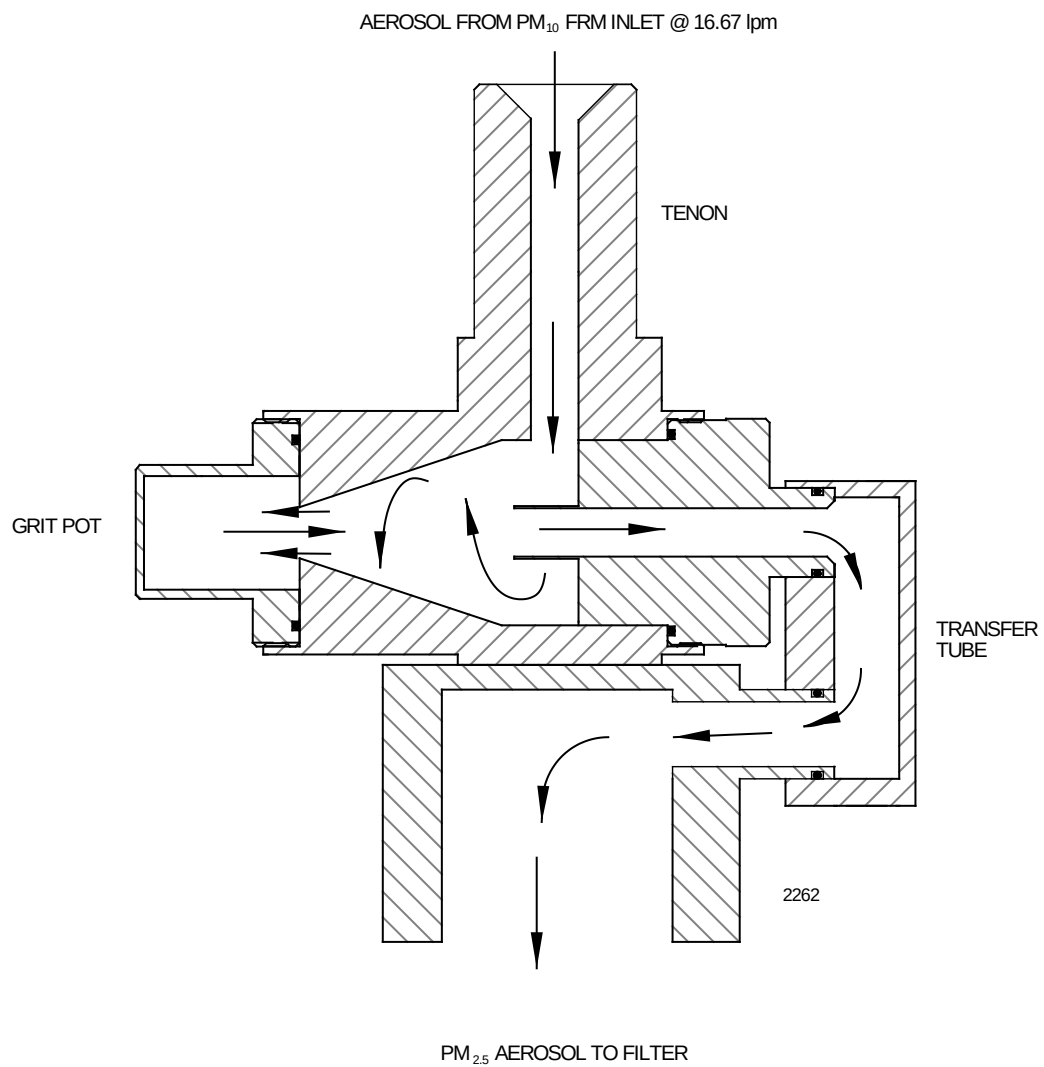

Figure 1: BGI Very Sharp Cut Cyclone (VSCC®) Flow Path
BGI manufactures two versions of the VSCC[®]. They are the VSCCA[®], which is a direct replacement for any commercial FRM system utilizing the standard WINS impactor, such as the Rupprecht & Patashnick (Partisol[™]), Graseby/Anderson (RAAS[™] with use of exit adapter 2302). The VSCCB[®] is intended for installation only in the BGI PQ200 and PQ200A FRM samplers. See Figures 1 through 4.
The flow path through a VSCC[®] is shown, in a cut-away view in Figure 1. PM₁₀ "Coarse" aerosol enters tangentially after being pre-separated by the PM₁₀ FRM inlet. Particles greater than PM_{2.5} (MMD-AED) are removed to the grit pot on the side of the VSCC[®] and the PM_{2.5} sample is ducted through the cyclone separator to the filter holder. Field and laboratory tests indicate the VSCC[®] can operate up to a period of 90 days between cleaning frequencies, even in high urban loading sites.
Step 5. Replace the upper WINS housing with the VSCC[®] upper adapter. (See Figure 1 and 4b). The male tenon of the VSCC[®] should pass through the top of the sampler weather seal.